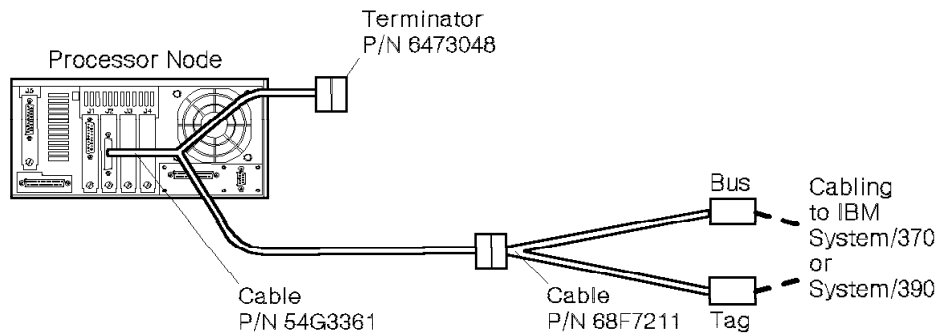

Figure C-3. BMCA cabling to a single processor node
1. Connect cable part number 54G3361 to the BMCA adapter card that you installed in the processor node as shown in Figure C-3.